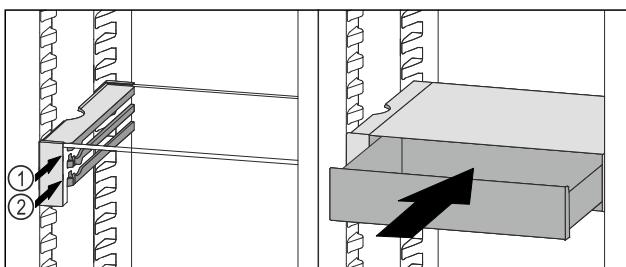

Fig. 146
- ▶ Place the VarioSafe drawer behind the stoppers on desired rib Fig. 146 (1) or Fig. 146 (2).